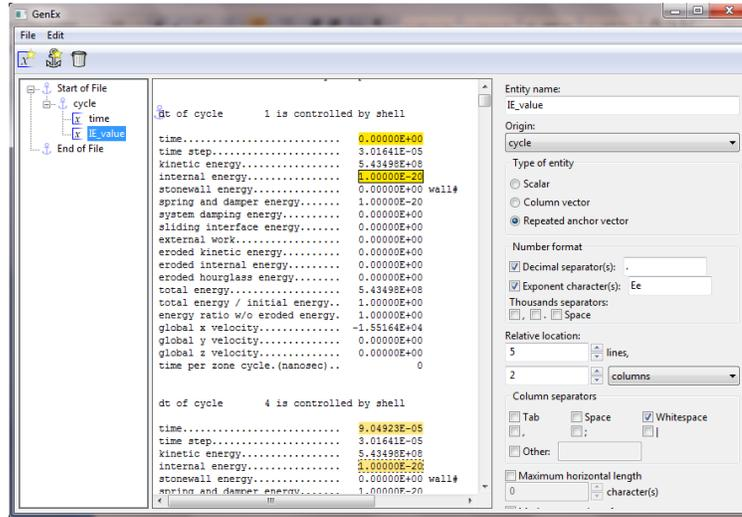

Figure 8 History definition using Repeated Anchor Vector
- Since this is a history, the entities *time* and *IE_value* at each cycle should be extracted. This can be done by selecting *Repeated Anchor Vector* as entity type. Selecting *Repeated Anchor Vector* as anchor type highlights all the fields with locations relative to text “dt of cycle” throughout the data file *sample_glstat*, as shown in figure 8. Once all the anchors and entities are defined, save the GenEx file and close the GenEx window.